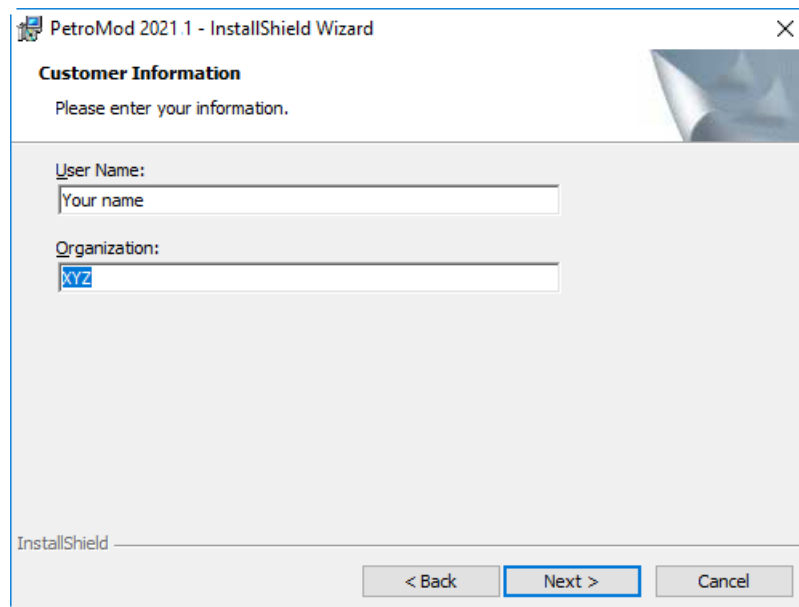

Fig. 3-2 Filling in user name and organization
- 3 Enter your **User Name** and **Organization** (Fig. 3-2), then click **Next**.